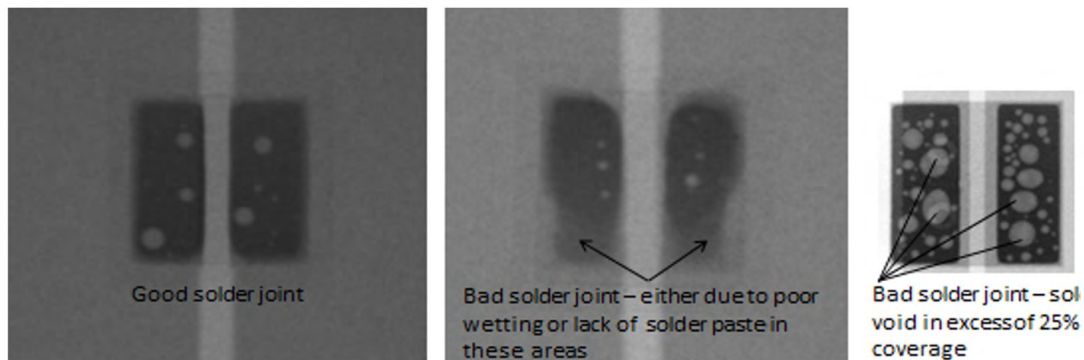

Figure 22: Example of good and bad x-ray result.
1. Solder voids – perform x-ray inspection. Keep solder void to less than 25% coverage (Figure 22)